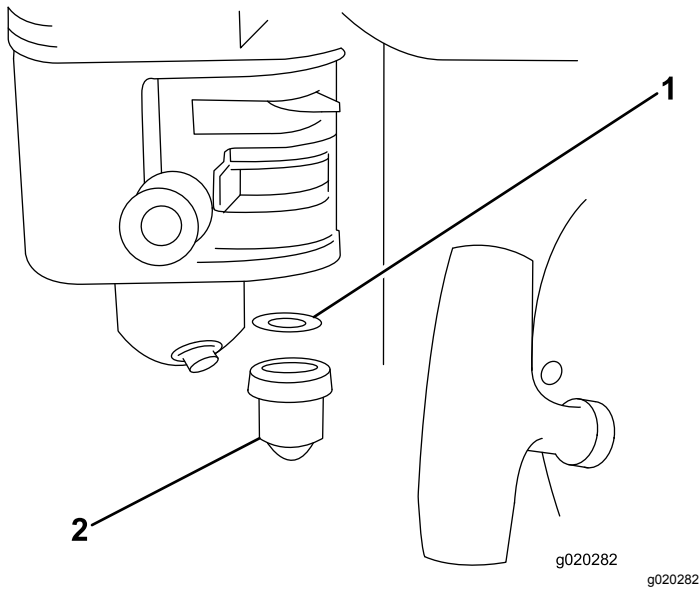

Figure 18
- Remove the sediment cup and O-ring (Figure 18).